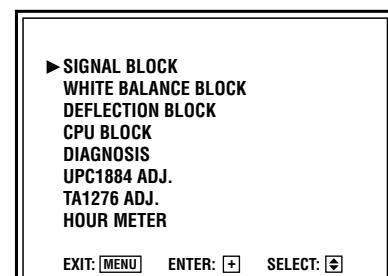

Fig. 3
7. Check that the initial values of the items in the service menu are correct (Fig. 3). For the setting method, see the corresponding pages for "Adjustments" in this manual.